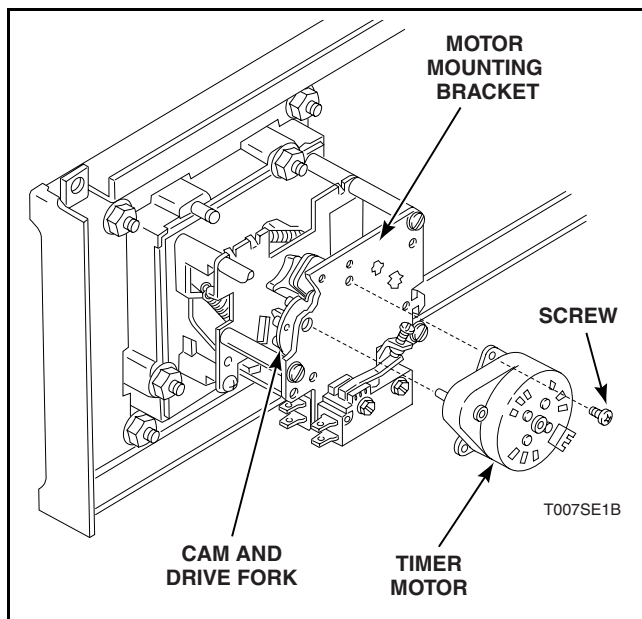

Figure 6
- Remove two screws holding motor to mounting bracket. Refer to *Figure 6*.